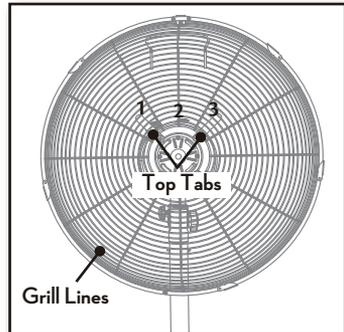

Figure 11
2. Make sure the rear grill is positioned so that three of the grill lines are completely between the top tabs, Figure 11. Then place the rear grill against the motor housing, and line up the four tabs on the back of the grill to the four screw holes on the front of the motor.